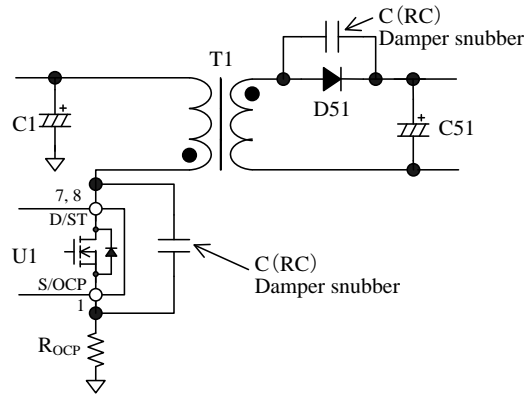

Figure 9-15 Damper snubber
In addition, if a C (RC) damper snubber of Figure 9-15 is used, reduce the capacitor value of damper snubber.